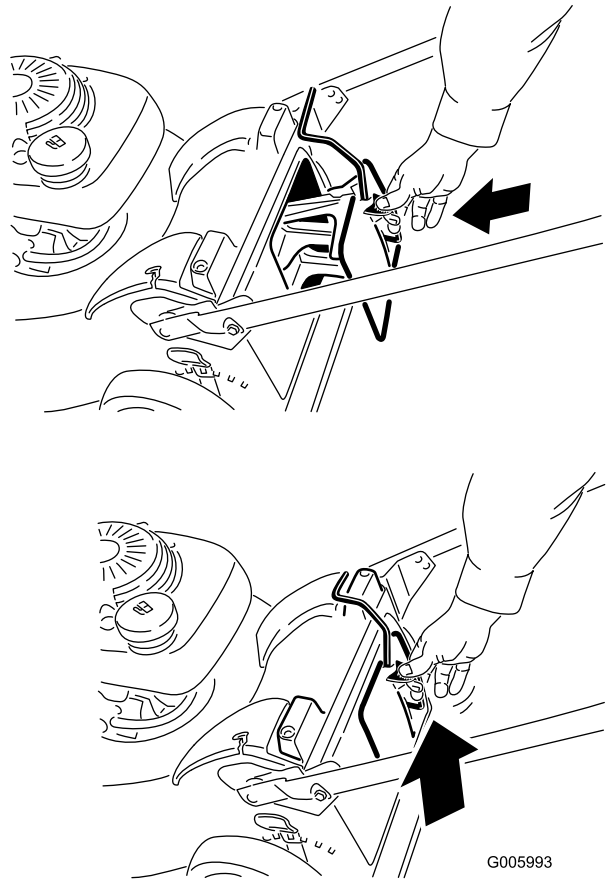

Figure 31
2. Insert the mulch plug (Figure 31).